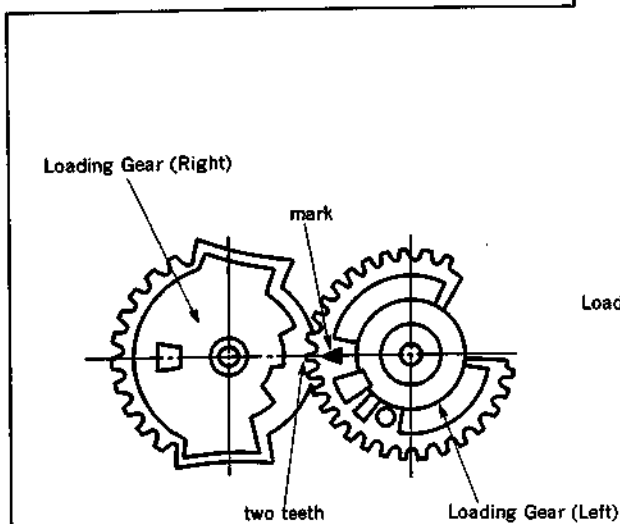

Fig. 4
- ① Align the mark on the loading gear (left) with the center point between two teeth of the loading gear (right), then install the gears on the shaft of the chassis and the shaft of the shuttle (left). (Fig. 4)